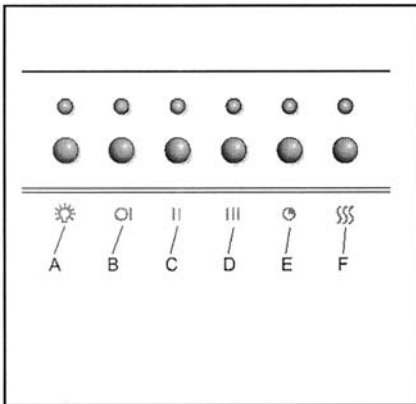

Fig.18
• MANDOS : Electrónicos (Fig.18)
• **CONTROLS: Electronic (Fig.18)**